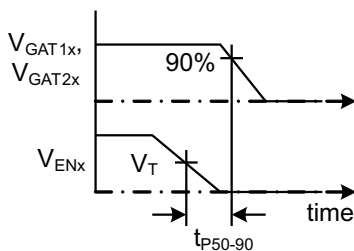

Figure 2. tp50-90 Definition
(4) See Figure 2 for timing definition.
(5) These parameters are provided for reference only, and do not constitute part of TI's published device specifications for purposes of TI's product warranty.